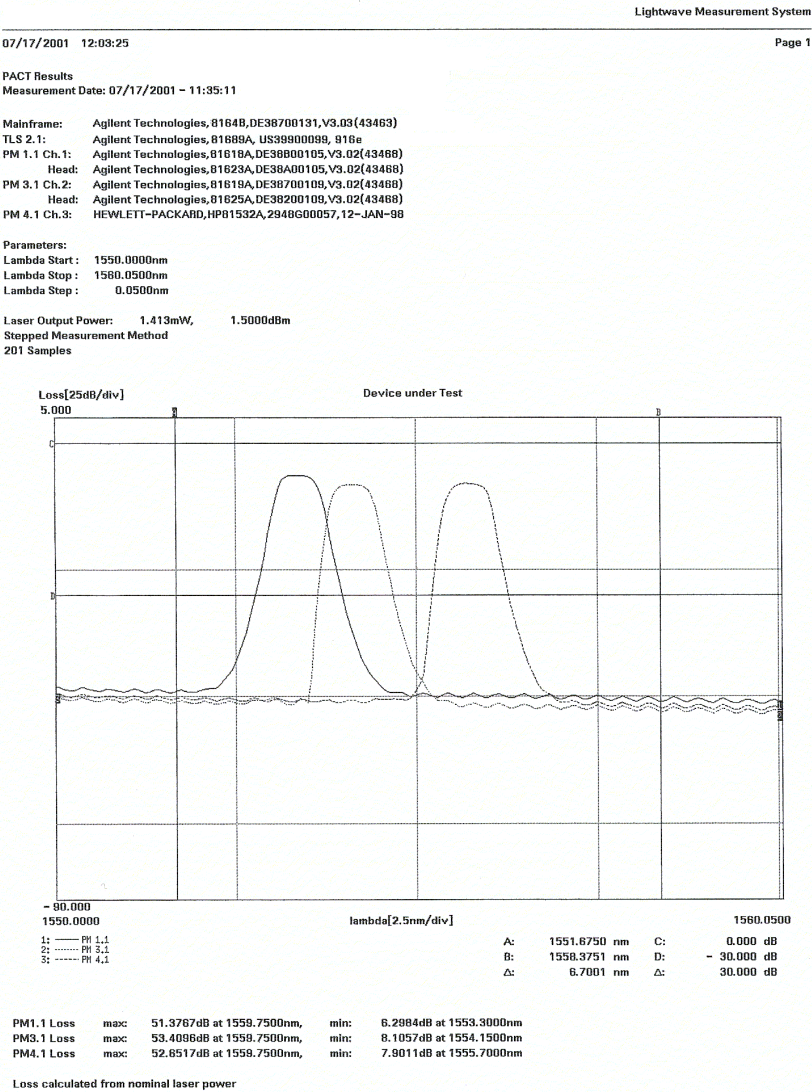

Figure 190 Printed Results
- 6 The printed results should resemble the page shown in Figure 190 on page -309.